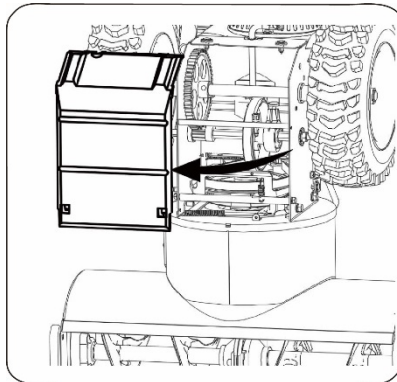

Fig.22
2. Carefully tilt the snow blower up and forwards so that it rests on the auger housing. Remove the screen from the underside of the snow blower by removing four self-tapping screws that secure it. See figure 22.